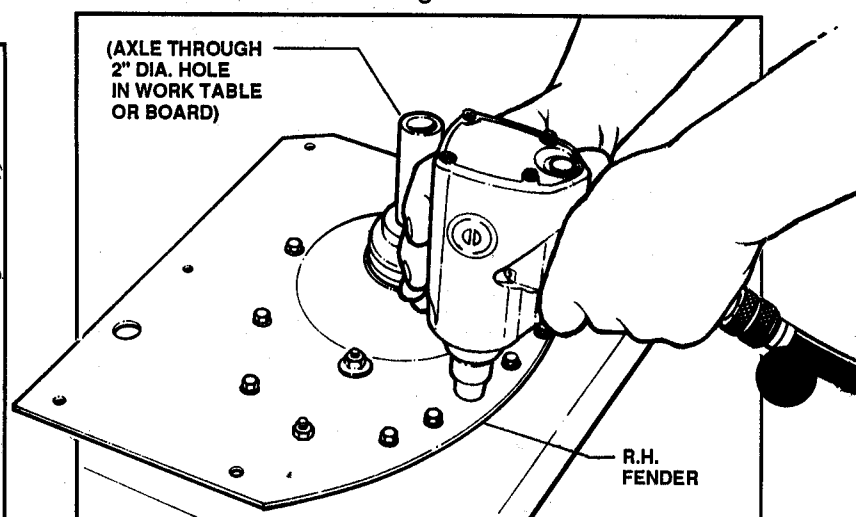

FIGURE 4.16
10. Remove differential from mower and place in a 2" diameter hole drilled in workbench or either a fabricated 2" x 4" wooden holder. See Figure 4.16.
11. Remove the 11 self-tapping screws. Remove the nuts from the two aligning bolts and the idler bolt. Refer to Figure 4.16.